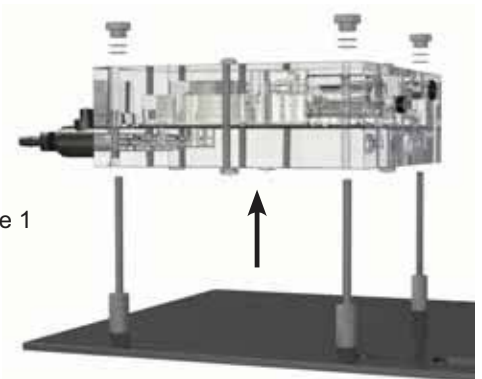

Figure 1
**Step 6.** Remove the flow cell from the panel by removing the knurled nuts (Figure 1).